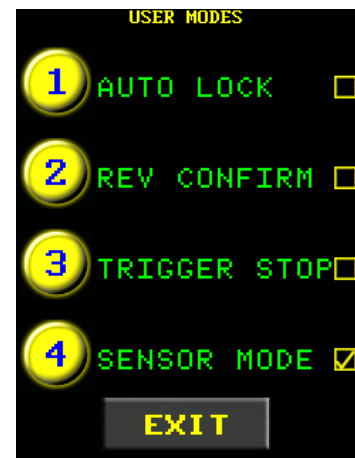

Figure 5.11-2: User Modes Menu
6. Select "Sensor Mode" to toggle Sensor Mode on or off (Figure 5.11-2).